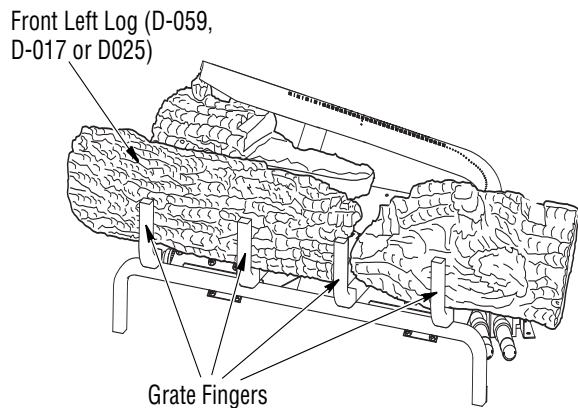

Figure 26 - Installing Front Left Log
3. Find the front left log (LMF24GTA/B or LMF24MOA/B models: D-059, LMF30GTA/B or LMF30MOA/B models: D-017, LMF36GTA/B or LMF36MOA/B models: D-025). See Figures 26, 26A,